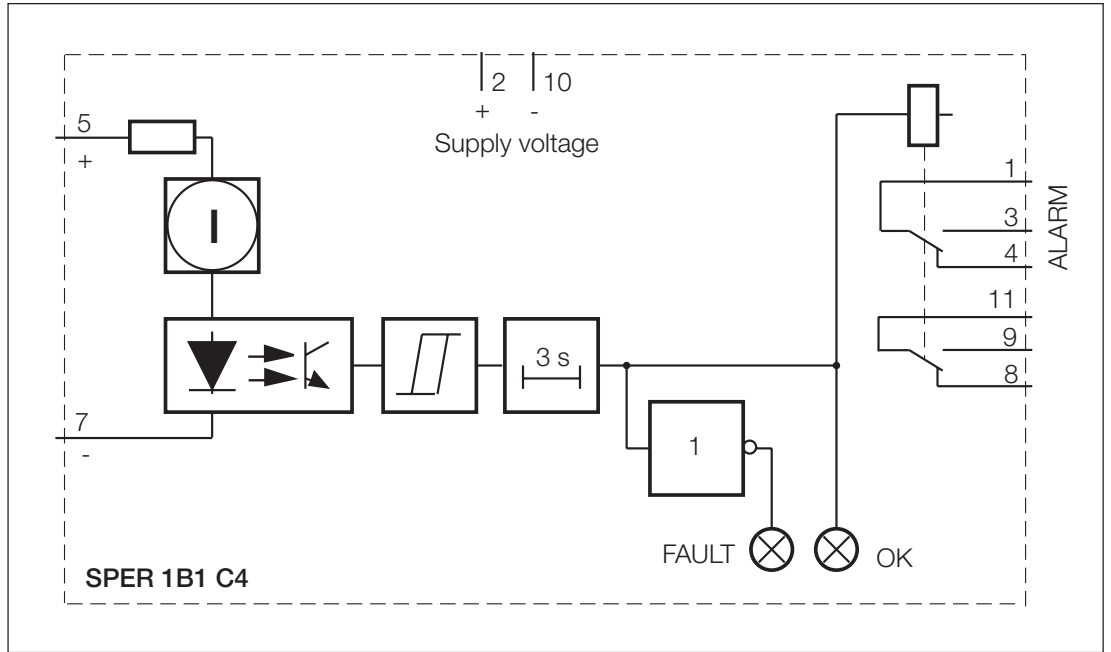

Fig. 1. Block diagram for supervision relay SPER 1B1 C4
The constant current generator (I) of the driver circuit feeds a small  $I_c$  current of some 1.5-5 mA, depending on the relay type used, through the circuit to be monitored. The contact inputs 5-7 of SPER 1B1 C4 or 11-21 of SPER 1C1 or SPER 1C2 are connected over the NO control contact (f) and so the measuring current flows between the poles of the control voltage (see Figs 1, 2 and 3).